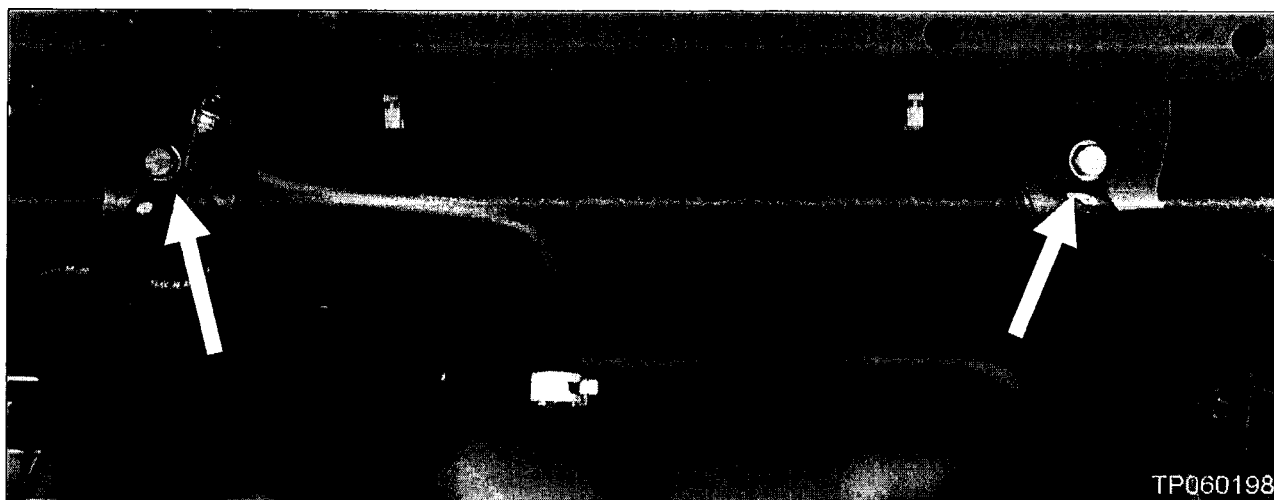

Figure 34
27. Remove the fuel tank strap bolts shown in Figure 34.